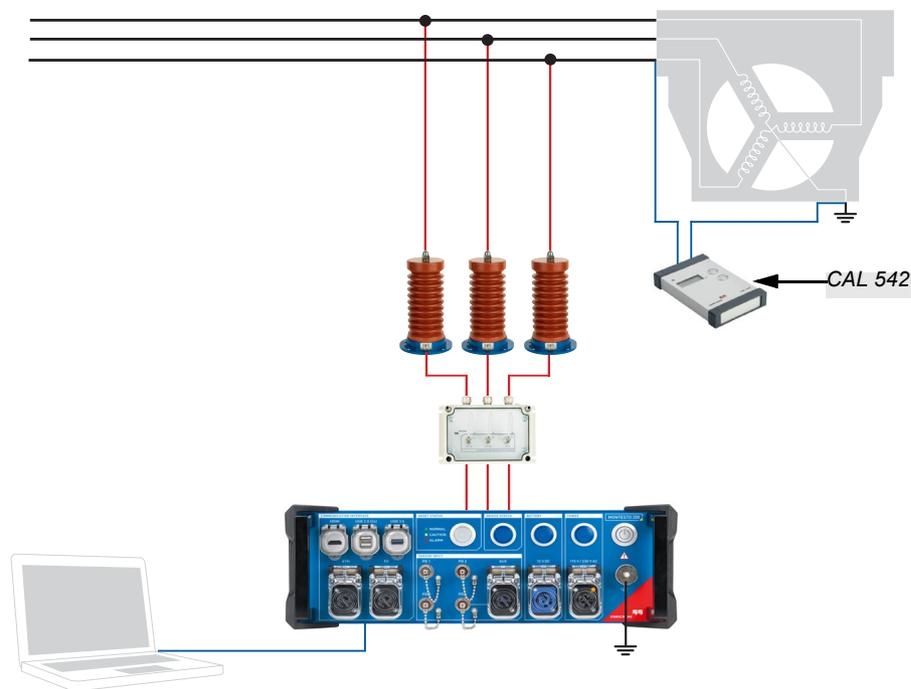

Figure 3-24: Normalization
1. Connect a calibrator (for example, CAL 542) to one of the three phases (see Figure 3-24: "Normalization" on page 33) by connecting one lead to the relevant phase and the second lead to the main grounding of the machine.